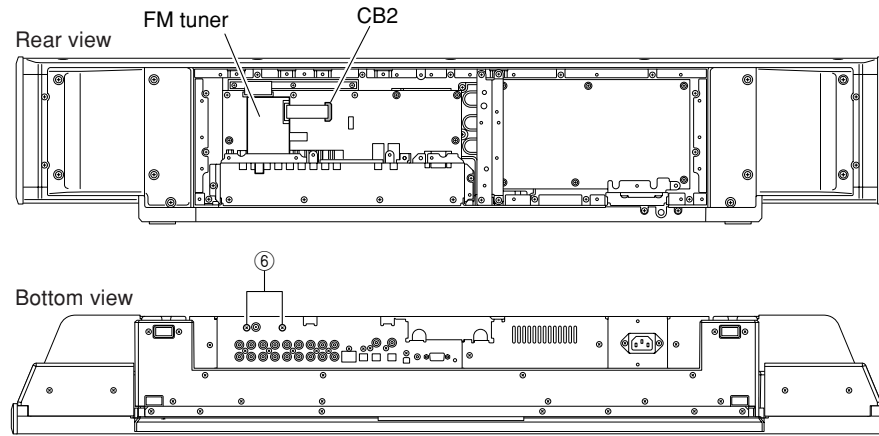

Fig. 3
- a. Remove 2 screws (⑥). (Fig. 3)
- b. Remove CB2. (Fig. 3)
- c. Remove the FM tuner. (Fig. 3)